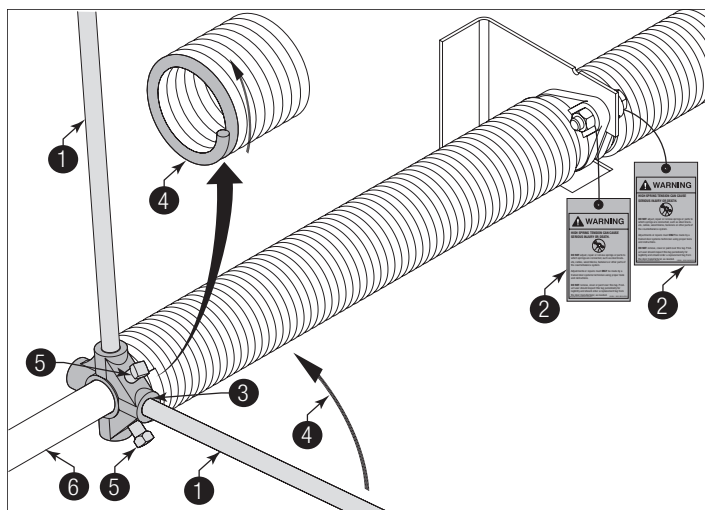

Figure 60
**PRIOR TO WINDING THE SPRING, ENSURE YOU'RE WINDING IN THE PROPER DIRECTION AS SHOWN IN FIGURE 60. OTHERWISE THE SPRING FITTING MAY RELEASE FROM SPRING AND RESULT IN SEVERE OR FATAL INJURY.**